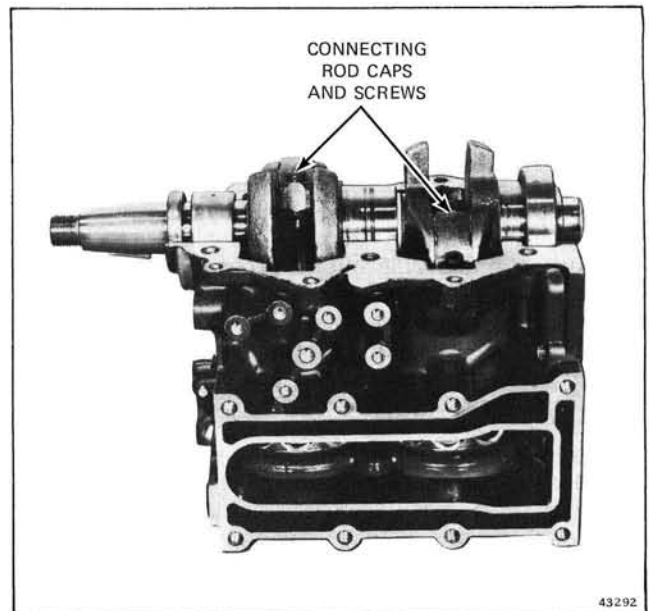

Figure 5-19. Connecting Rod Caps and Screws
j. Use a 5/32 inch, Allen wrench to remove connecting rod screws. Remove rod caps and bearing retainers. See Figure 5-19.